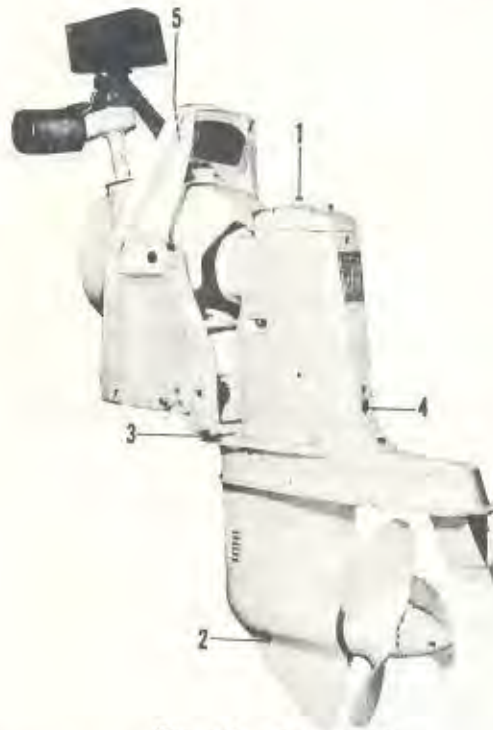

Fig. 10. Drive 270
**Check the oil every 14 days** by using the dipstick (1, Fig. 10) in the cover over the upper gear housing. This check must be carried out while the outboard drive is in its lowered position. The oil dipstick should not be screwed in when the oil level is checked.
**Change the lubricating oil after every 100 hours running** or at least once each season. Drain off the old oil by removing the plug (2, Fig. 10). The dipstick (1) should be unscrewed so that the oils runs out more easily.
The steering shaft bearing is greased through the grease nipple (3, Fig. 10) by using a grease gun. Force in so much that it seeps out at the wear washer.
The steering rod bearing is greased through the lubricator (5, Fig. 10) on the inside of the mounting collar. Force in so much grease that it seeps out at the bearing.